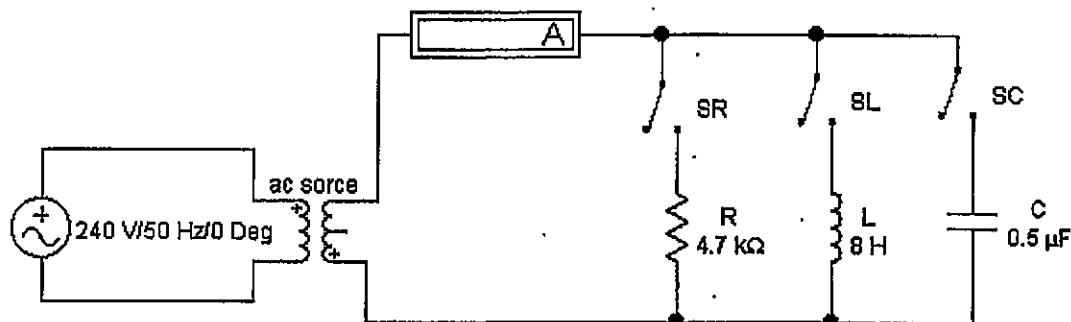

Fig 11.2
- 1- Connect the circuit of Figure 11.2